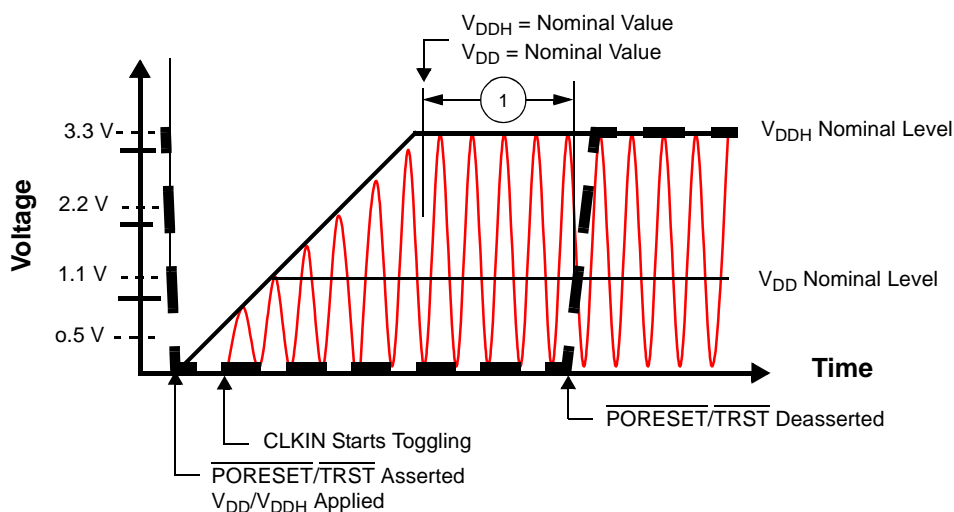
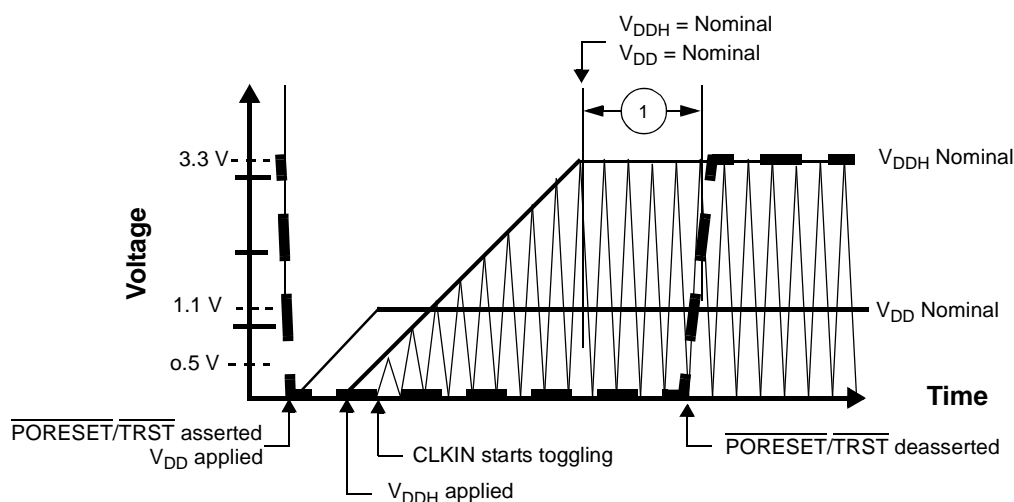

Figure 6. Start-Up Sequence: V_{DD} and V_{DDH} Raised Together
Figure 7. Start-Up Sequence: V_{DD} Raised Before V_{DDH} with CLKIN Started with V_{DDH}
- If possible, bring up the V_{DD} and V_{DDH} levels together. For designs with separate power supplies, bring up the V_{DD} levels and then the V_{DDH} levels (see **Figure 7**).
- CLKIN should start toggling at least 16 cycles (starting after V_{DDH} reaches its nominal level) before $\overline{\text{PORESET}}$ deassertion to guarantee correct device operation (see **Figure 6** and **Figure 7**).
The following figures show acceptable start-up sequence examples. **Figure 6** shows a sequence in which V_{DD} and V_{DDH} are raised together. **Figure 7** shows a sequence in which V_{DDH} is raised after V_{DD} and CLKIN begins to toggle as V_{DDH} rises.